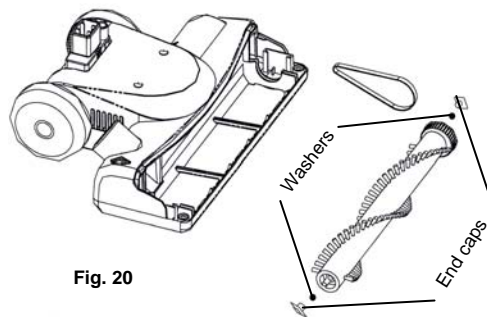

Fig. 20
- Remove the brush carefully by first lifting the right side of the brush and then the left side of the brush. Be careful not to lose the end caps and washers (x2). (Fig. 20)